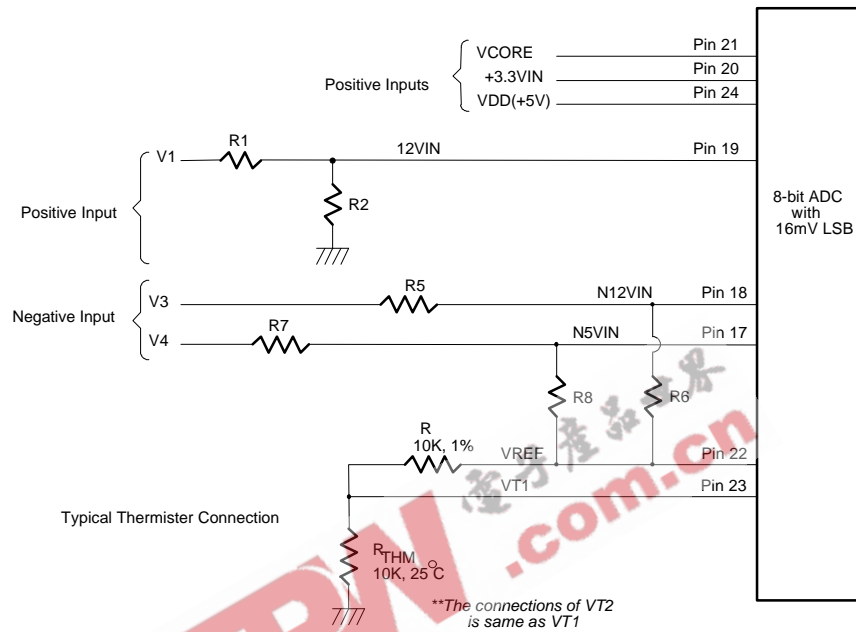

Figure 11.
The maximum input voltage of the analog pin is 4.096V because the 8-bit ADC has a 16mv LSB. Really, the application of the PC monitoring would most often be connected to power suppliers. The CPU V-core voltage ,+3.3V and battery voltage can directly connected to these analog inputs. The 5VSB and +12V inputs should be reduced a factor with external resistors so as to obtain the input range. As Figure 11 shows.
The negative voltage should be connected two series resistors and a positive voltage VREF (is equal to 3.6V). In the Figure 11, the voltage V3 and V4 are two negative voltage which they are -12V and -5V respectively. The voltage V3 is connected to two serial resistors then is connected to another terminal VREF which is positive voltage. So as that the voltage node N12VIN can be obtain a posedge voltage if the scales of the two serial resirtors are carefully selected. It is recommended from Winbond that the scale of two serial resistors are R5=232K ohms and R6=56K ohm. the The input voltage of node -12VIN can be calculated by following equation.
The W83783S can connect three thermistors to measure three different environment temperature. The specification of thermistor should be considered to (1)  $\beta$  value is 3435K, (2) resistor value is 10K ohms at 25°C. In the Figure 11, the thermistor is connected by a serial resistor with 10K Ohms, then connect to VREF (Pin 37).